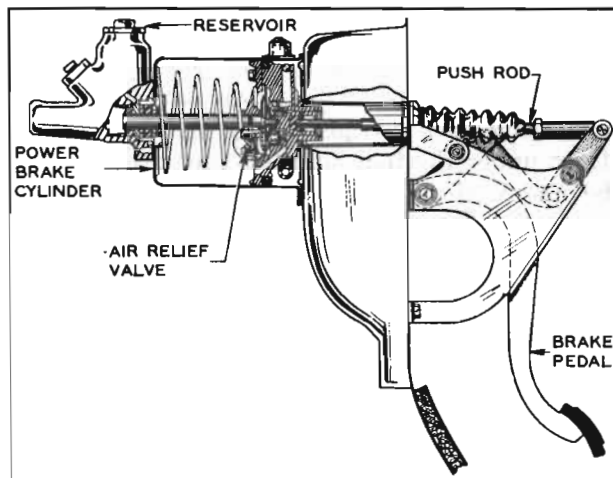

Figure 9-13—Power Brake Installation
The brake pedal is suspended from a bolt between two mounting brackets. As the brake is applied, a pedal lever extending upward operates a link rearward. This link in turn transmits motion to a lever on an idler, causing the idler to rotate. This rotation causes a second idler lever to push forward on the brake cylinder push rod clevis and push rod. The overall mechanical advantage in the power brake linkage is approximately $1\frac{1}{2}$ to 1. See Figure 9-13.
2. Remove clevis pin from push rod clevis. See figure 9-13.